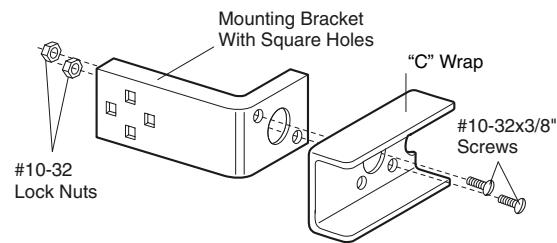

Figure 2
2. Connect each assembly to a slotted bracket, using the hardware shown on Figure 2. **Note alignment of brackets for left and right sides of door.**
4. Use bracket mounting holes as a template to locate and drill (2) 3/16" diameter pilot holes on both sides of the garage door, 4"-6" above the floor **but not exceeding 6"** (see warning on page 15).
5. Attach bracket assembly with 1/4"x1-1/2" lag screws as shown in Figure 2.